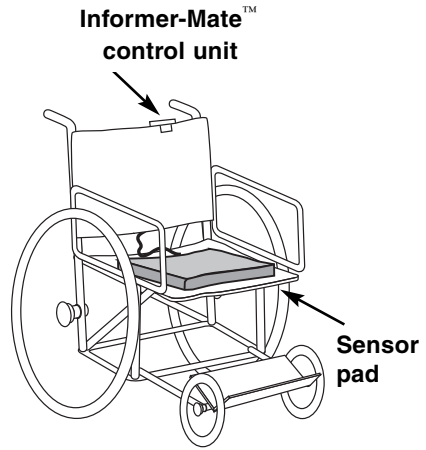

Figure 6
1. Place the chair sensor pad on the seat portion of the chair (**Figure 6**). An additional cushion may be used on top of the pad for patient or resident comfort. If you use an additional cushion, test the system by pressing firmly on the top of both cushions.